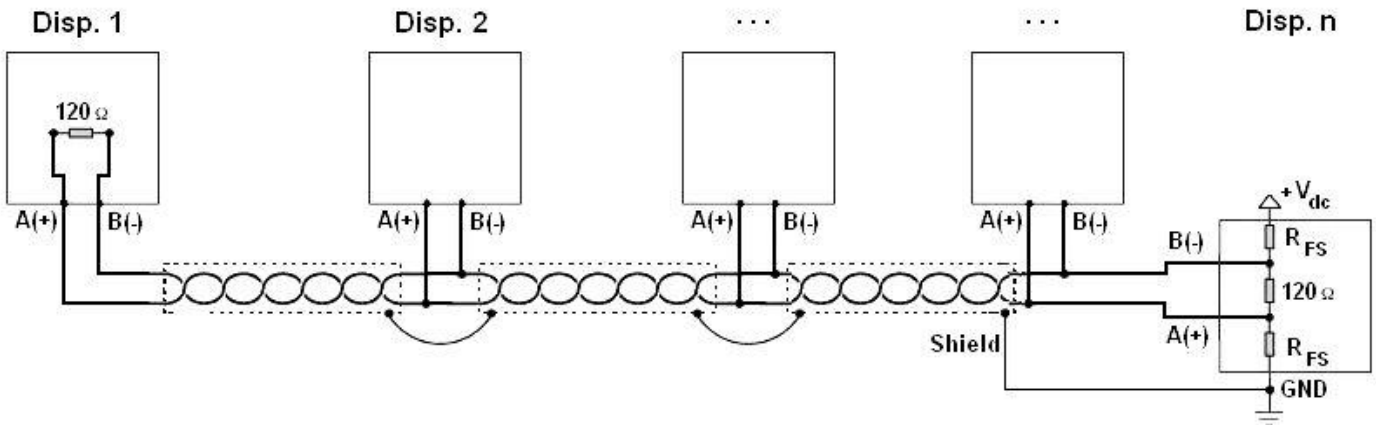

Figure 1: electrical diagram of RS485 connections.
- The shielding can be connected into a single point of the entire network (as shown in Figure 1) or both its ends, however it's important that **all the masses have the same potential**, in order to avoid the forming of current rings.
- On the RS485 network normally one connects 2 **termination resistances** equal to the characteristic impedance of the cable (typically 120 Ω, see Figure 1), **ONLY** on the 2 devices **which are at the 2 ends of the cable**. The terminal resistance is not supplied with the ports of the indicator.
To create a resistive divider which maintains this difference of potential also when all the transmitters are disabled, inert in the RS485 port of the indicator where there are the termination resistances, the **polarisation or fail-safe resistances** (R_{FS} in Figure 1). The value of these resistances is between 390 Ω and 2,2 kΩ.